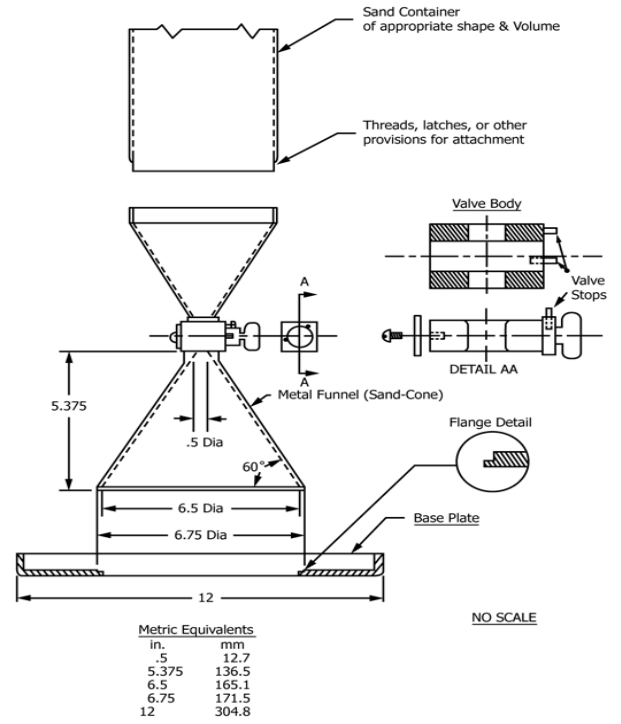

FIG. 1 Sand-Cone Density Apparatus
6.1.5 The details for the apparatus shown in **Fig. 1** represents the minimum acceptable dimensions suitable for testing soils having maximum particle sizes of approximately 1 1/2 in. [38 mm] and test hole volumes of approximately 0.1 ft³ [2830 cm³]. When the material being tested contains a small amount of oversize and isolated larger particles are encountered, the test should be stopped and moved to a new location. Larger apparatus and test hole volumes are needed when particles larger than 1 1/2 in. [38 mm] are prevalent. The apparatus described here represents a design that has proven satisfactory. Larger apparatus, or other designs of similar proportions may be used as long as the basic principles of the sand volume determination are observed. When test hole volumes larger than 0.1 ft³ [2830 cm³] are required. Test Method D4914 should be utilized.
6.3 Balances or Scales—Meeting Specification **D4753**, with 0.01 lbf [5.0 g] readability, or better, to determine the mass of sand and excavated soils. A balance or scale having a minimum capacity of 44 lbf [20 kg] and 0.01 lbf [5 g] readability is suitable for determining the mass of the sand and the excavated soil when apparatus with the dimensions shown in **Fig. 1** is used.